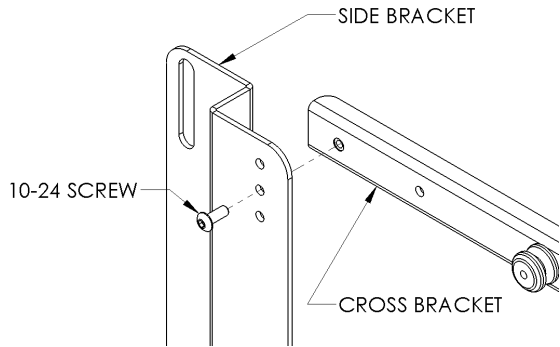
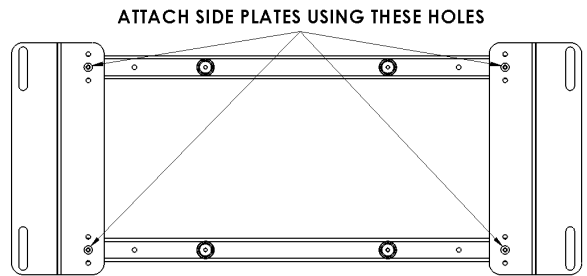

Figure 4
Figure 5
2. **Side Bracket Assembly:** Attach center brackets to side brackets using the 10-24 button head cap screws (see Figure 4 & Figure 5). Offset holes are provided in case the cross brackets need to be shifted up or down.